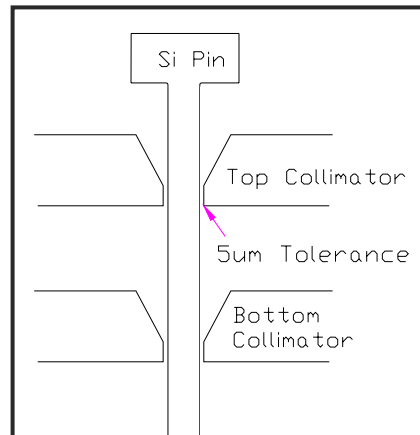
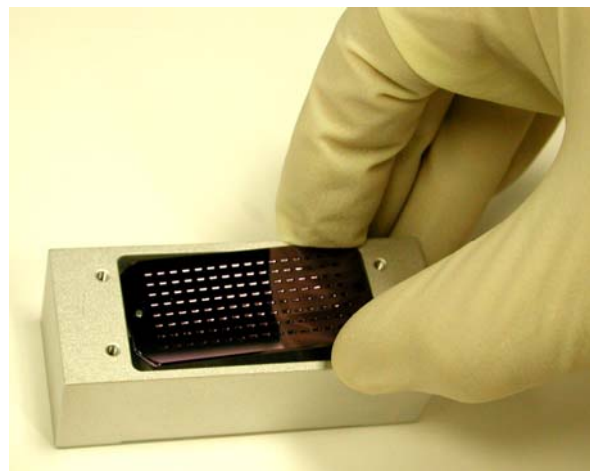

Fig. 5 Cross sectional view of the holes in the collimation plates and a silicon pin.
Fig. 9 Mounting the top collimator onto the alignment pins in the metal holder
- two silicon collimator plates with high tolerance, easy loading holes on a 1536 format. Fig. 5 shows the cross sectional view of the holes in the collimator. The top part of the hole is tapered into a funnel shape for easy loading of the pins, while high tolerances ($5\mu\text{m}$) are retained in the vertical bottom part of the hole to minimize any lateral movement of the pins in the printhead.
- c) Flip the holder over and mount the top collimator onto the alignment pins. Again the collimator must be kept parallel to the holder surface as it is placed onto the two alignment pins. First carefully position the round hole of the top collimator onto one of the alignment pins as shown in Fig. 9, and then carefully align the oval hole onto the other alignment pin. After aligning drop the collimator onto the alignment pins. The funnel-shaped (tapered) holes of both the collimators should now be facing up (Fig. 5).